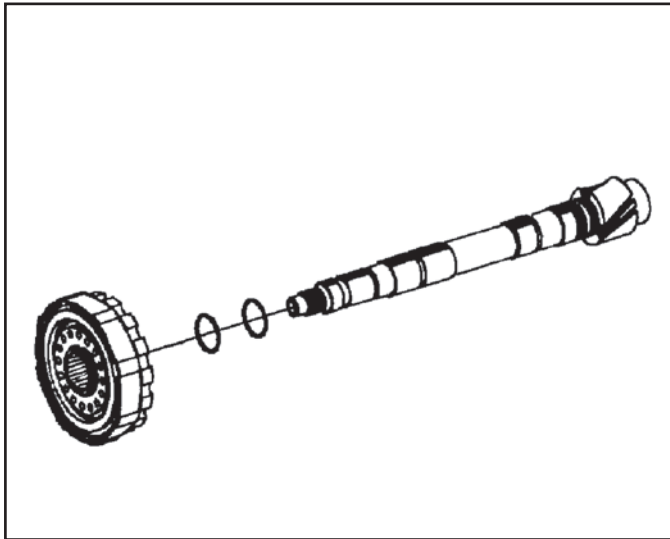

Figure 93
11. Remove the 4th clutch housing and O rings from the output shaft (See Figure 93) **NOTE: It may be necessary to use a press to remove the 4th clutch housing.**